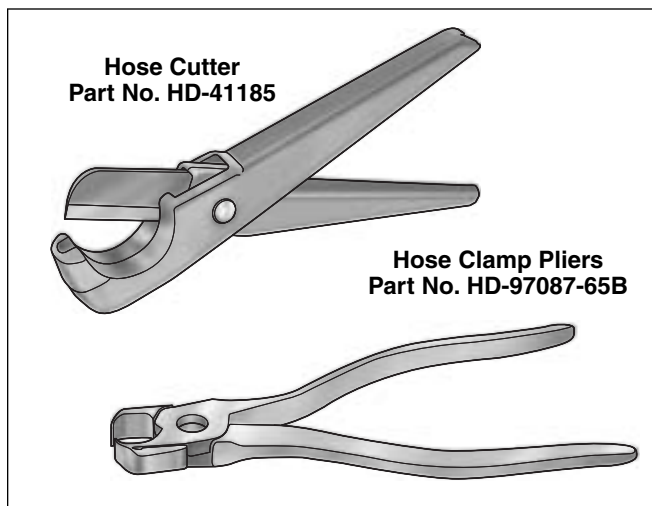

Figure 4-17. Hose Cutter/Hose Clamp Pliers
3. Inspect crossover hose for cuts, cracks, nicks or other damage. Be sure aging has not caused the hose to become hard and brittle. If replacing from bulk storage, use SAE R9 or equivalent fuel hose only. Remove old hose and cut new hose to same length using HOSE CUTTER (HD-41185). See Figure 4-17.
3. Route free end of crossover hose under frame backbone and in front of ignition coil to other side of fuel tank. Install convoluted tubing, if removed, and **new** clamp onto hose. Install hose onto fitting at bottom of fuel tank and crimp clamp using HOSE CLAMP PLIERS (HD-97087-65B). See Figure 4-17.